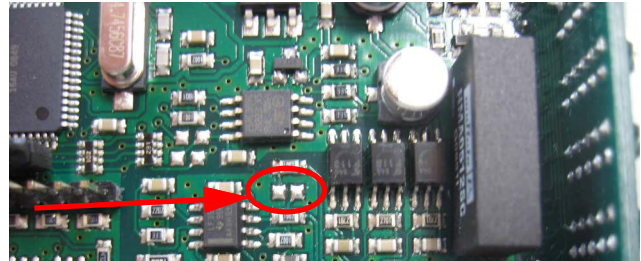

Figure 2-12. Soldered Jumper
- Locate the soldered jumper (SW4), on the circuit board. See Figure 2-12 on page 35.